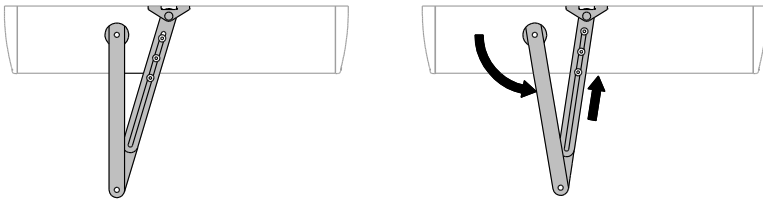

Fig.13 Push arm pre-tensioning
- Insert washer (D) and screw (E) in spindle
- Locate and secure arm (F) to spindle (C) with screws (G)
- Locate spindle (C) on output shaft so that arm is perpendicular to door and tighten screw (C)
- Replace screws (B) loosely and re-attach cleat (A) to arm
- Keep door shut and rotate arm 5 to 15° to tension spring (Fig. 13).
- Tighten screws (B)